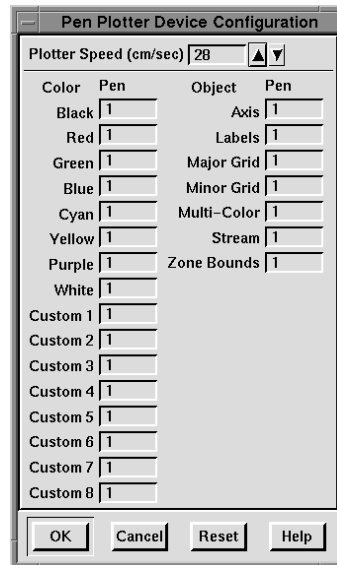

Figure 21-5. The Pen Plotter Device Configuration dialog.
21.3.2.5. Pen Plotter Configuration. If you are using a pen plotter, you can use the Pen Plotter Device Configuration dialog shown in Figure 21-5 to specify plotter speed and pen assignments for particular colors and Tecplot object types. You access this dialog by clicking Pen Plotter on the HP-GL page of the Print Setup dialog. You can associate each of Tecplot's basic colors with any of the plotter's pens.